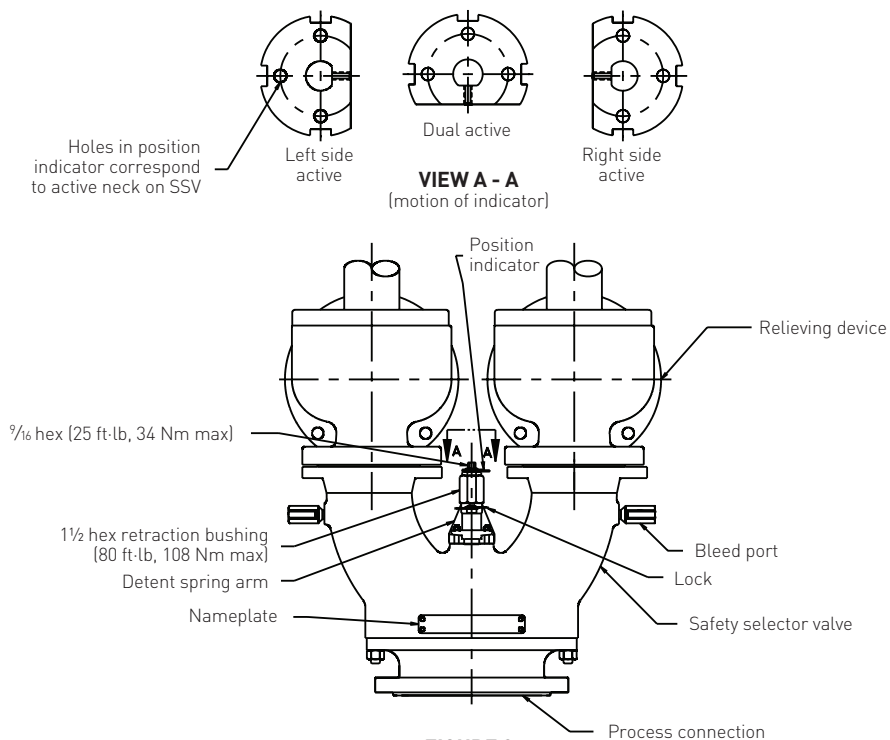

FIGURE 3
Refer to Figure 3 and follow these steps:
4. Pull detent spring to clear indicator groove and rotate ⅝" hex to desired position. Max torque 25 ft-lb. Refer to view "A-A" of Figure 3.